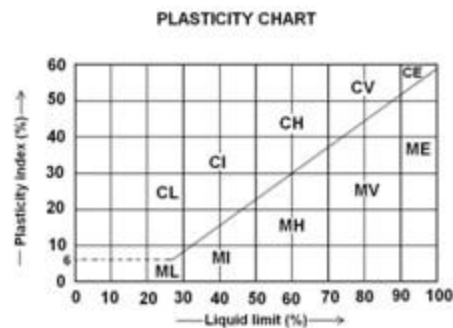

Fig. 2
- (ii) Use figure 2 to classify the soil tested on the British soil classification system. **(11 marks)**